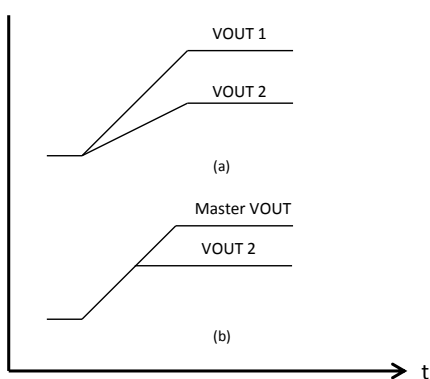

Figure 5 - PI33XX-X1 tracking methods
There is typically either proportional or direct tracking implemented within a design. For proportional tracking between several regulators at startup, simply connect all devices TRK pins together. This type of tracking will force all connected regulators to startup and reach regulation at the same time (see Figure 5 (a)).
All connected regulators’ soft-start slopes will track with this method. Direct tracking timing is demonstrated in Figure 5 (b). All tracking regulators should have their Enable (EN) pins connected together to work properly.